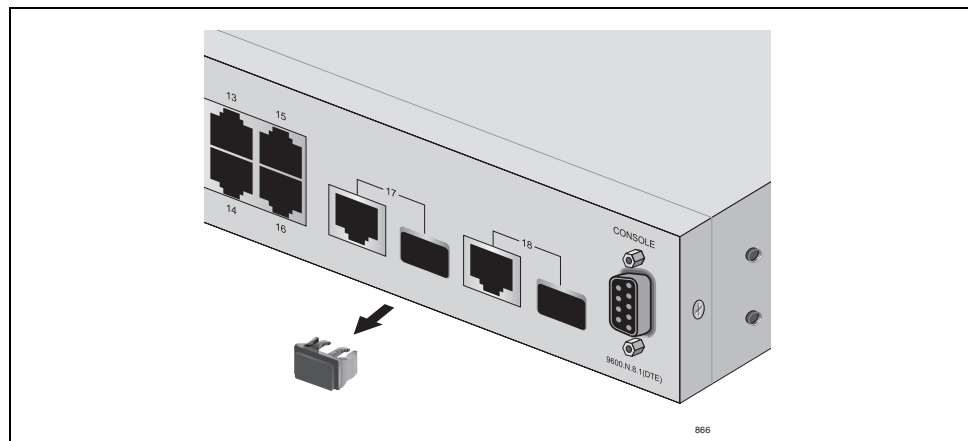

Figure 11. Removing the Dust Plug from the SFP Slot
2. Remove the dust plug from an SFP slot, as shown in Figure 11.